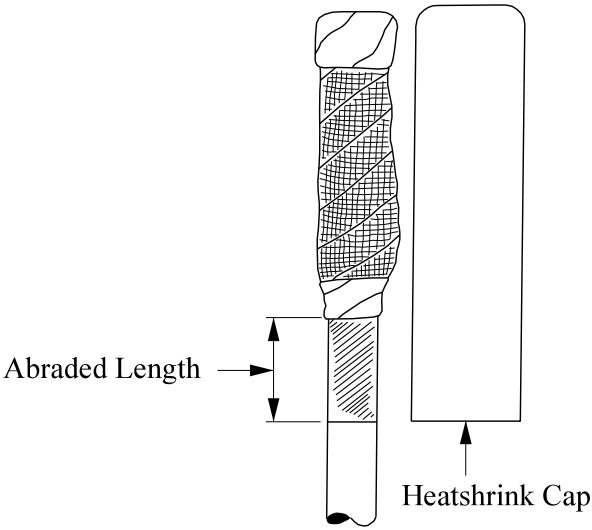

Fig 7
- 8.15. If the street furniture is not going to be replaced immediately then offer the heat shrink outer mastic lined cap to the cable, mark the base of the cap onto the PVC oversheath, abrade and degrease the area to covered. Fit the heat shrink pot end tubing over both the hard nylon temporary core protection cap and copper mesh and shrink down as per General Requirement 27 - Fig 7.